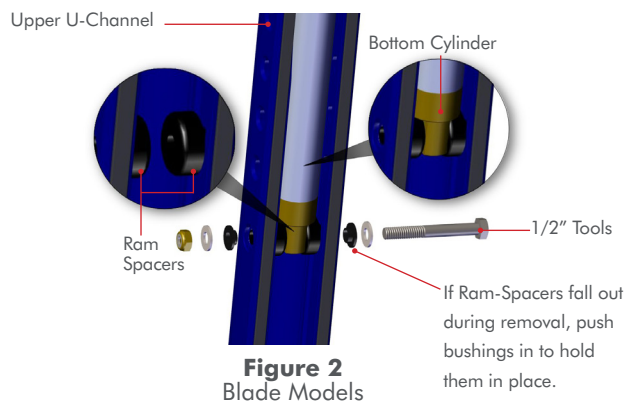

Figure 2
**STEP 2:** Remove the **Bottom Cylinder** from the **Upper U-Channel** using a **1/2" socket & wrench**. Push bottom of cylinder up into **U-Channel** and slide it forward past the **Ram Spacers** to remove it. **FIG 2**